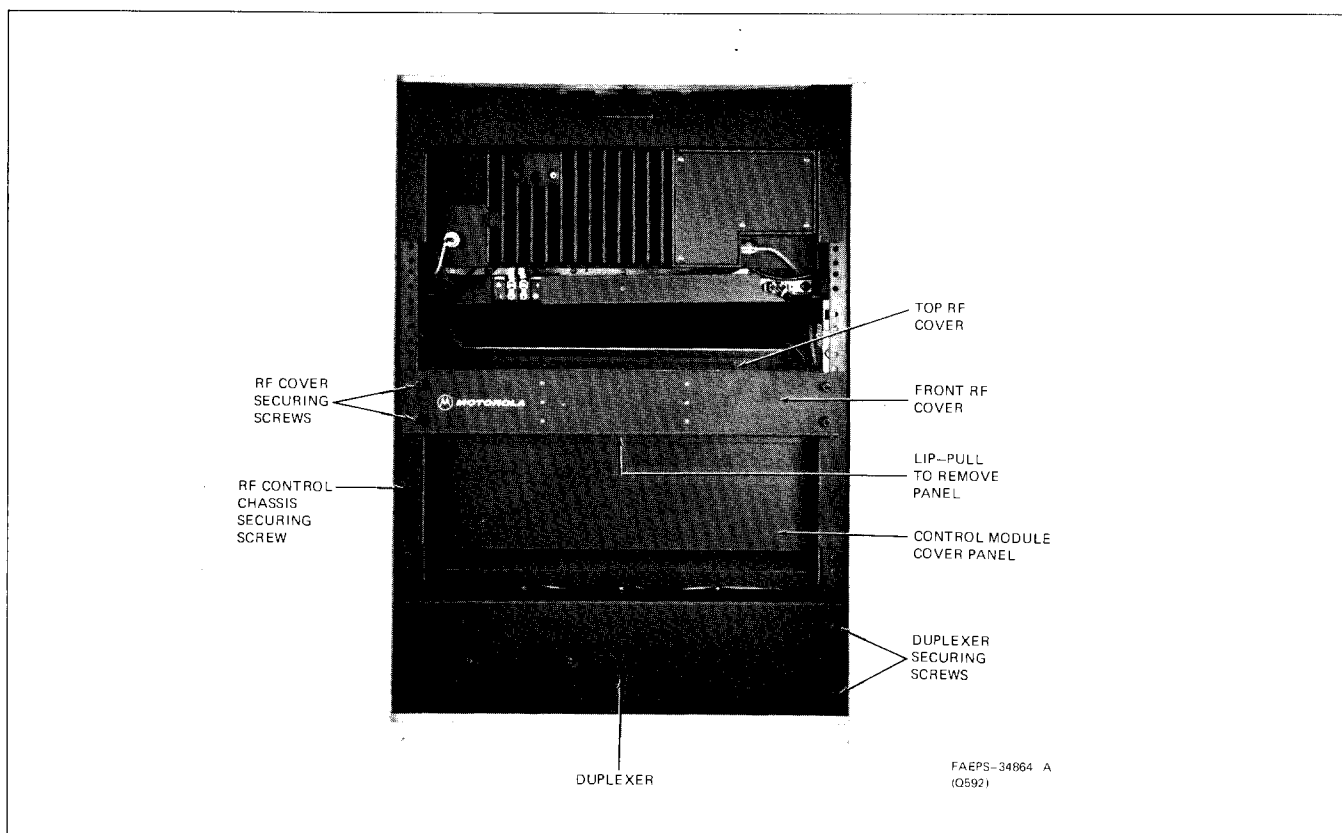

Figure 6. Fully Optionable Intermittent Duty Station Chassis Access
**5.4.2.1** To remove the front rf cover, remove 4 Phillips head screws (with plastic covers) as shown in Figures 6 and 7. The exciter and receiver boards may now be removed by pulling the ejector handles and then pulling the boards out of the chassis.